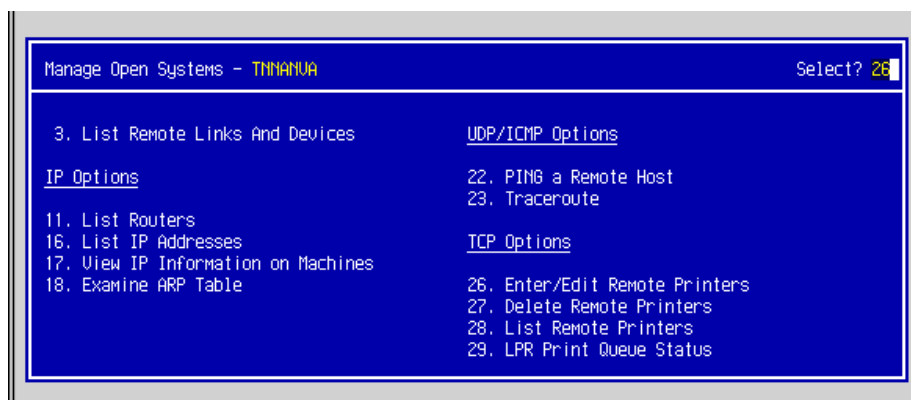

Figure 3: Enter/Edit Remote Printers
4. At the Manage Open Systems menu under TCP Options, select option 26, [**Enter/Edit Remote Printers**]. See Figure 3.